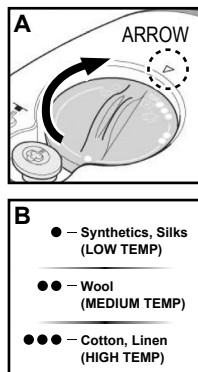

FIGURE 3
2. Turn Temperature Control Dial clockwise so that small arrow (▲) on Hand Grip (FIGURE 3-A) points to one of three heat settings on Dial (FIGURE 3-B). Heating Indicator Light will illuminate.